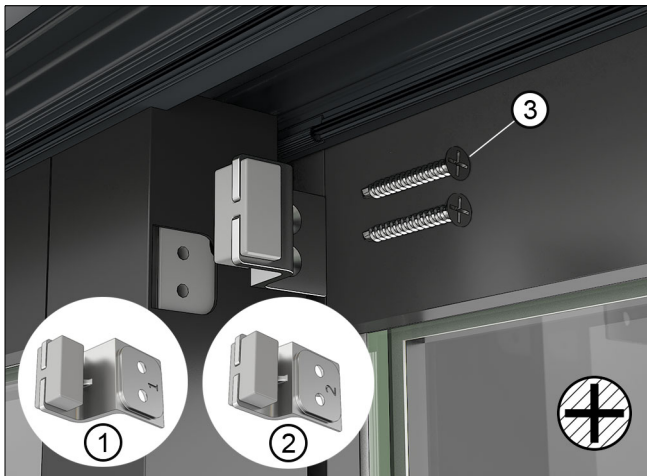
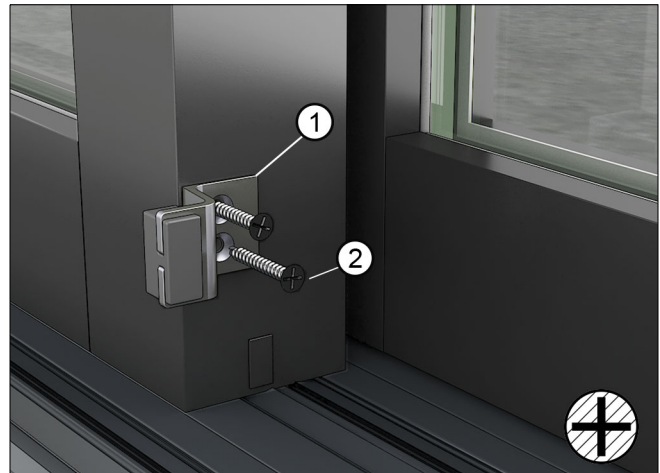

Figure 114 Top secondary panel bumper
Figure 115 Bottom secondary panel bumper
1. On secondary panels, fasten panel bumpers to the interior meeting stile at the top and bottom with #10 x 1 1/2" Phillips head screws. See Figure 114 and Figure 115.